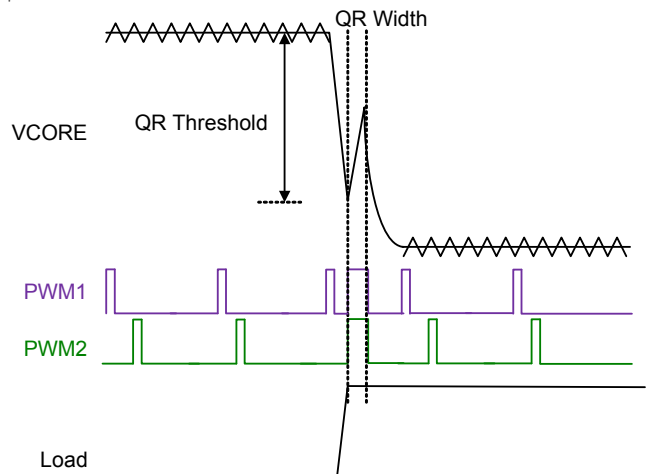
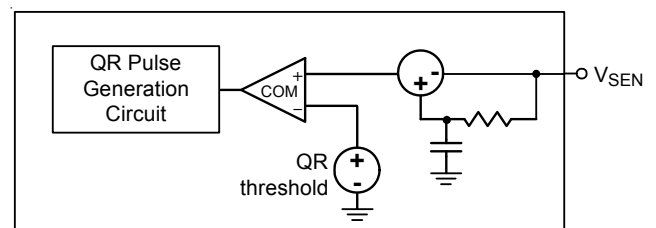

Figure 25. Quick Response Mechanism
Figure 26. Simplified QR Trigger schematic
When the transient load step-up becomes quite large, it is difficult for loop response to meet the energy transfer. Hence, that output voltage generate undershoot to fail specification. The RT3602AC has Quick Response (QR) mechanism being able to improve this issue. It adopts a nonlinear control mechanism which can disable interleaving function and simultaneously turn on all UGATE one pulse at instantaneous step-up transient load to restrain the output voltage drooping. Figure 25 shows the QR behavior.
The output voltage signal behavior needs to be detected so that QR mechanism can be triggered. The output voltage signal is via a remote sense line to connect at the VSEN pin which is shown in Figure 26. The QR mechanism needs to set QR width and QR threshold. Both definitions are shown in Figure 25. A proper QR mechanism set can meet different applications. The SET1 and SET2 pins can set QR threshold and QR width by internal current source 80 μ A with multi-function pin setting mechanism for MAIN and AUX1 VR rails. Table 2 shows the QR_TH and QR_WIDTH for MAIN and AXUI VR rails on the SET[1 to 2] pins.